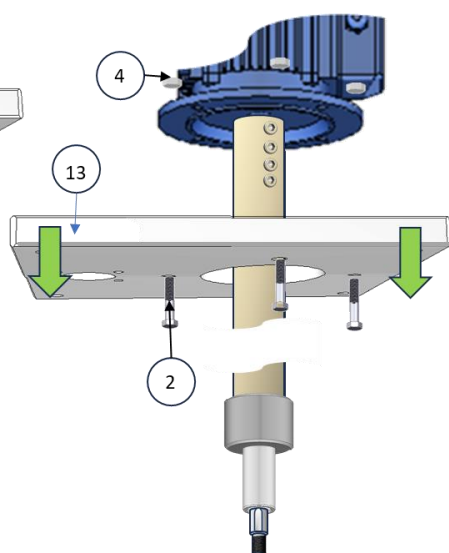
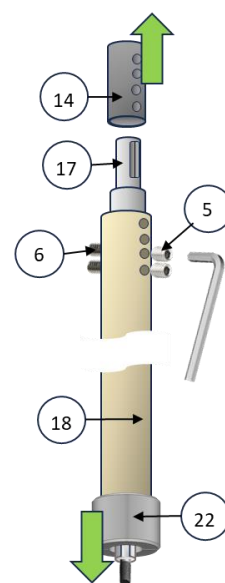

Figure 2
Figure 4
2. Unscrew the screws (2) from the nuts (4) to remove the plate 13 (Figure 2)
3. Unscrew the 4 Allen grub screws (5) of the upper part to free and remove the motor (1)
4. Unscrew the grub screws (5) and the two Allen grub screws (6) to free the shaft (17) from the shaft cover (18) with its guide (22) and pull out the coupling (14) (Figure 4)